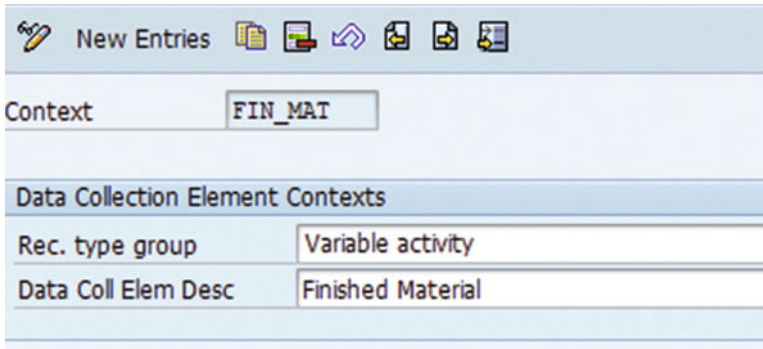

Figure 3-11. Configuration of data collection contexts
2. Select New Entries (refer to Figure 3-11).